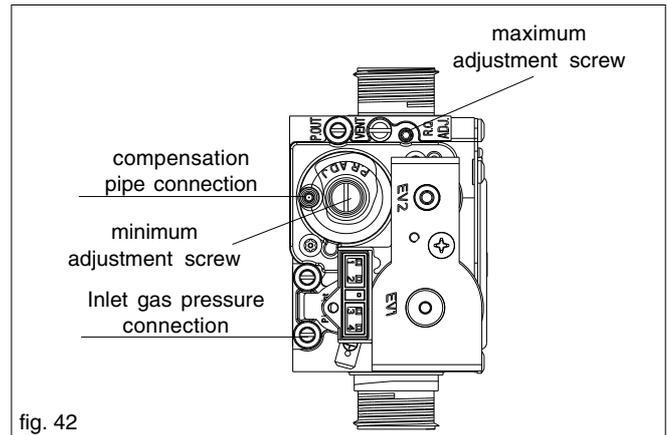

fig. 42
- using a 2.5mm Allen key, very slowly turn the maximum adjustment screw (see fig. 42) – clockwise to decrease, counter clockwise to increase – until the correct value is displayed on the CO2 analyser (allow time for the analyser to stabilise).
- locate the minimum adjustment screw (fig. 42), using a suitable screwdriver remove the protection plug
- using a 4mm Allen key, very slowly turn the minimum adjustment screw (see fig. 42 - clockwise to increase, counter clockwise to decrease - until the correct value is displayed on the CO2 analyser (allow time for the analyser to stabilise).